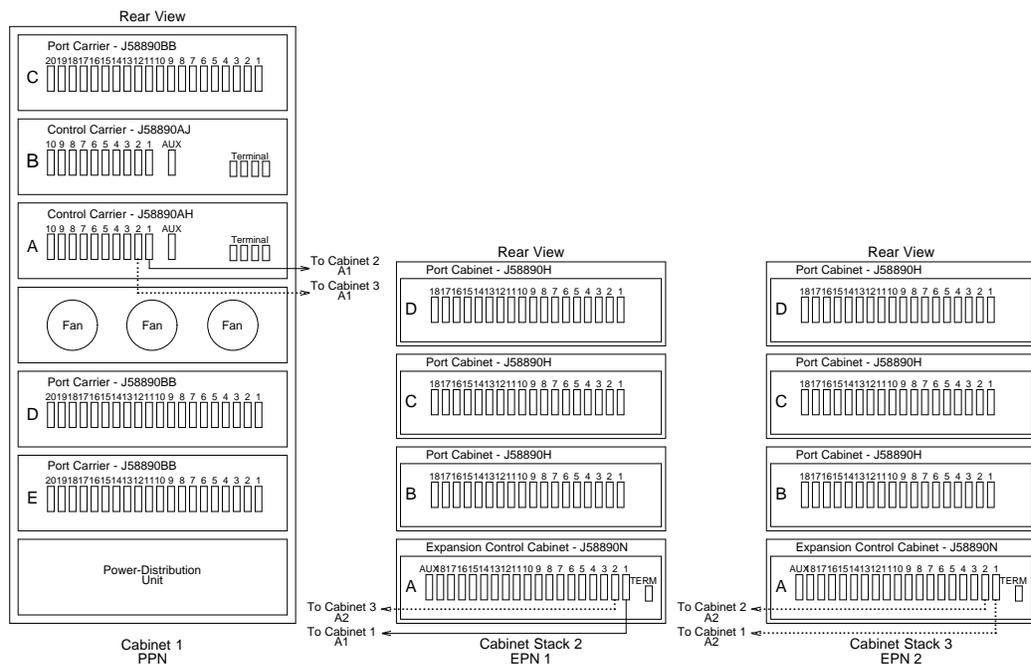
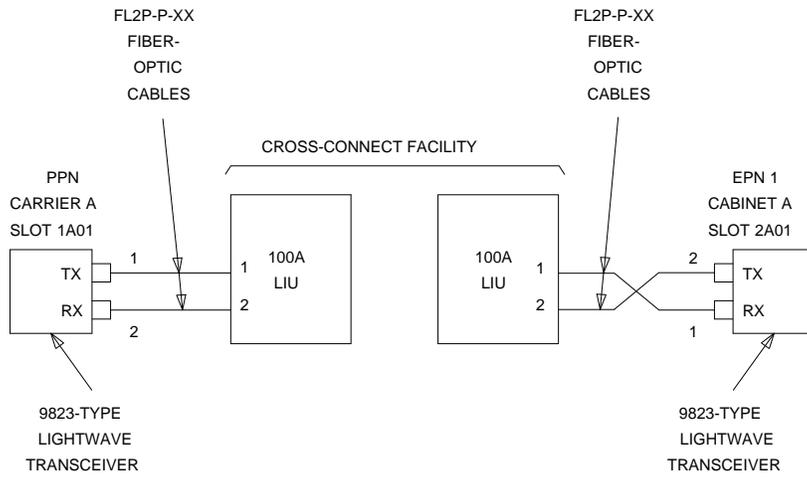
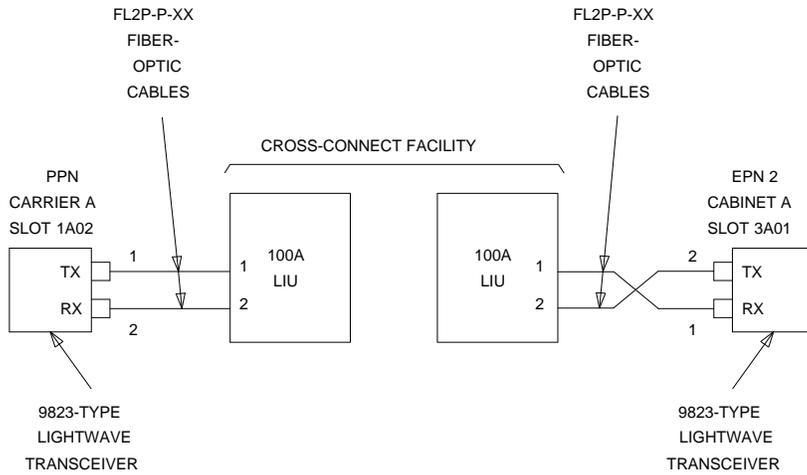
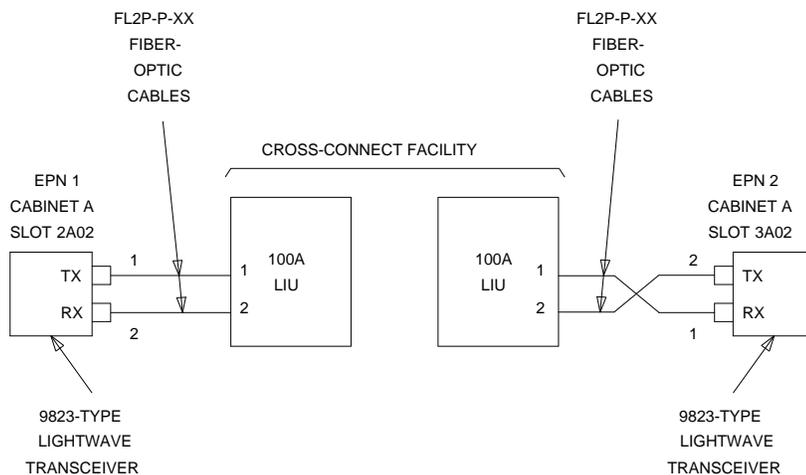

Figure 8-24. High-Reliability G3i V4 with Two or Three Port Networks
Figure 8-25. Fiber-Optic Connections PPN to EPN1
Figure 8-26. Fiber-Optic Connections PPN to EPN2
Figure 8-27. Fiber-Optic Connections EPN1 to EPN2
1. Behind control carrier A of the multicarrier PPN (Figure 8-24 on page 8-52, Figure 8-25, Figure 8-26, and Figure 8-27):